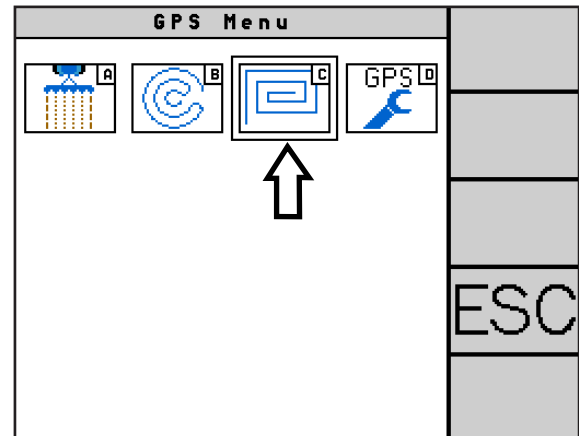

Fig. 167: Select “Multi line” mode
In the GPS menu, select “Multi line” (C) (see Fig. 167).